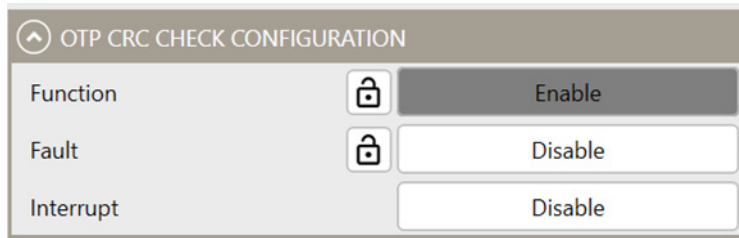

Figure 31: OTP CRC Configuration
26. Configure the one-time programmable (OTP) memory cyclic redundancy check (CRC) (see Figure 31 on page 21).